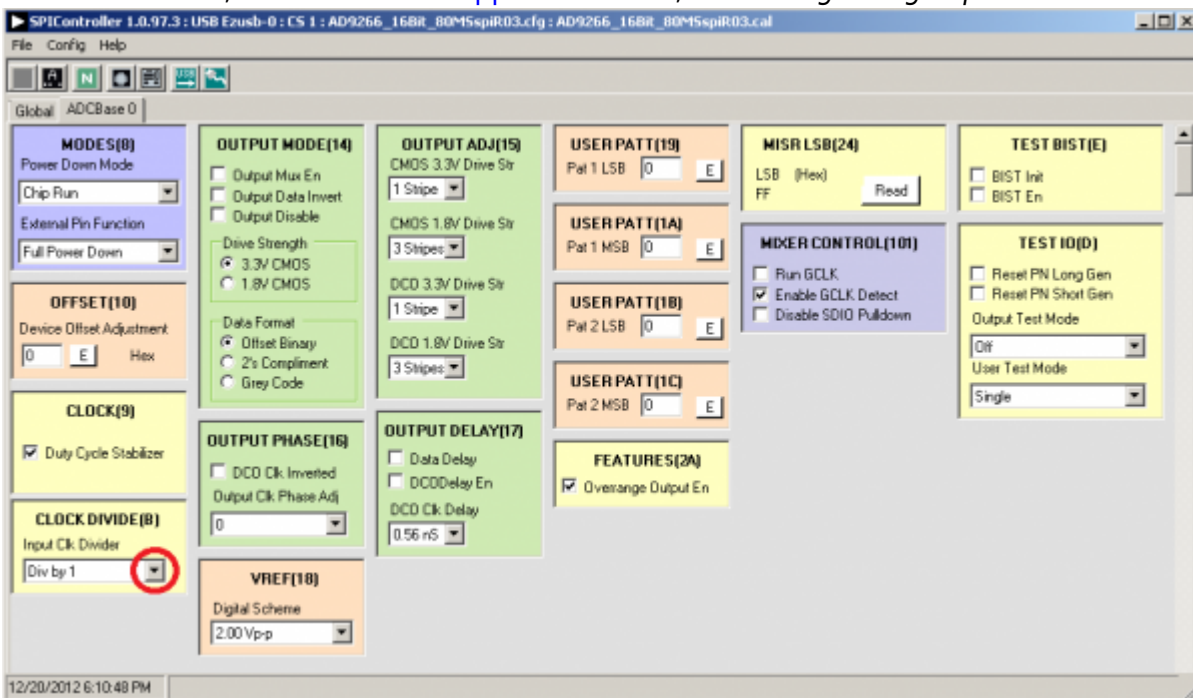
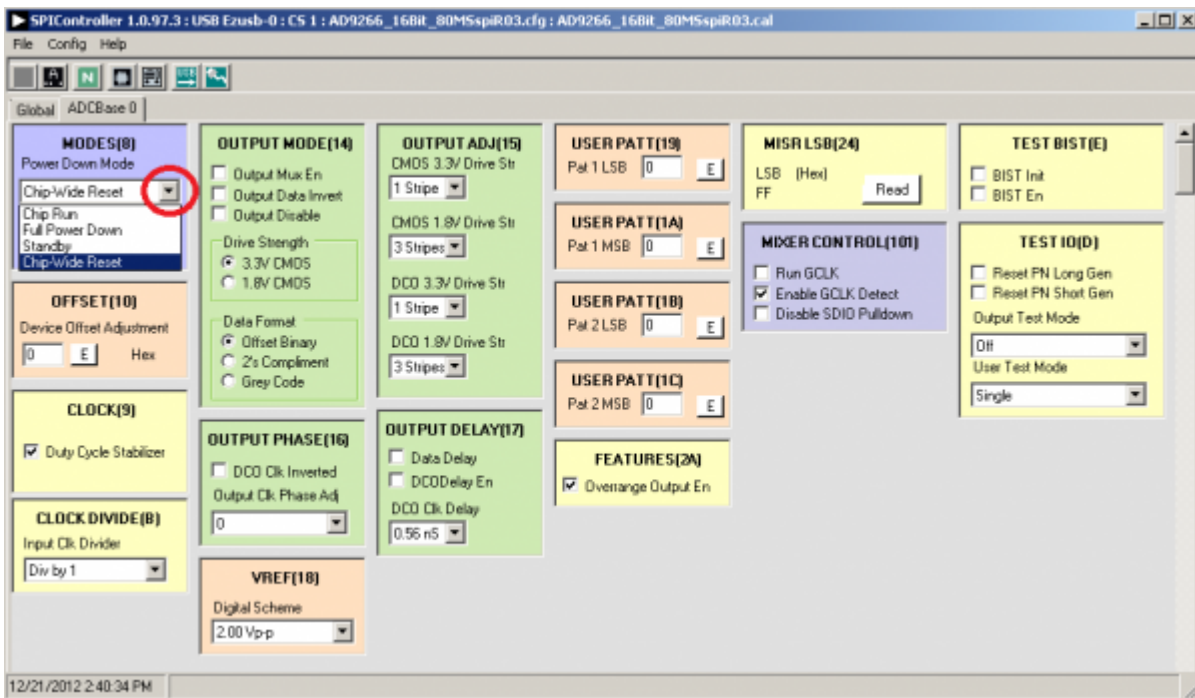

Figure 9.
Figure 10. SPI Controller, Chip Power Mode - Digital Reset Selection
3. In the **ADCBase 0** tab of the **SPIController** window, find the **CLOCK DIVIDE(B)** box (see Figure 9), and the **MODES(8)** box (see Figure 9). If using the clock divider, use the drop-down menu to select the correct clock divide ratio, as desired. If there is any interruption of the ADC clock during power-up or during operation, a digital reset may be needed to reinitialize the ADC (Figure 10). For additional information, refer to the data sheet, the AN-878 Application Note, High Speed ADC SPI Control Software, and the AN-877 Application Note, Interfacing to High Speed ADCs via SPI.
4. Note that other settings can be changed on the **ADCBASE 0** tab (see Figure 9) to set up the part in the desired mode. See the appropriate part data sheet, the AN-878 Application Note, High Speed ADC SPI Control Software, and the AN-877 Application Note, Interfacing to High Speed ADCs via SPI for additional information on the available settings.